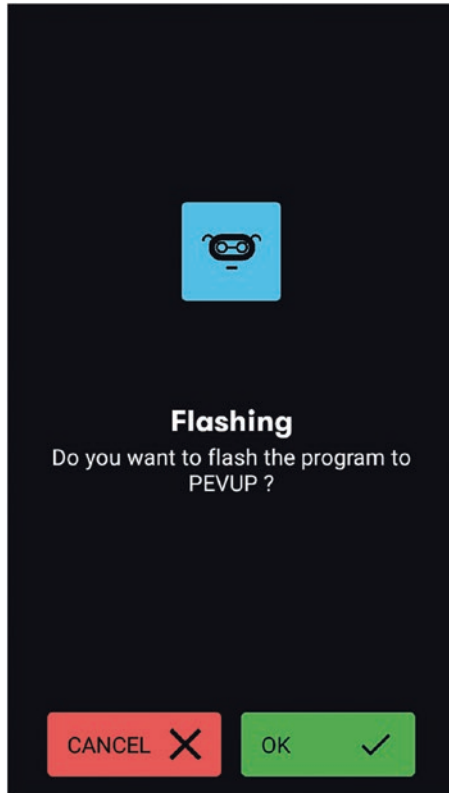

Figure B-16. Confirmation screen for flashing
6. Tap the OK button to confirm the flashing (see Figure B-16).